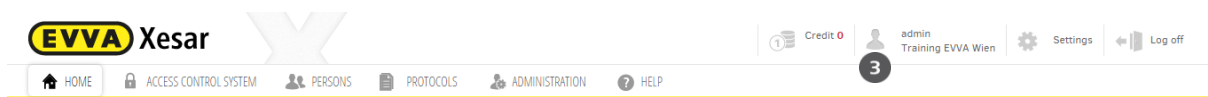

Figure 55: Individual client logo
If necessary, change your client logo here. The selected logo will then be shown in the program's tool bar ③ (Figure 55: Individual client logo).